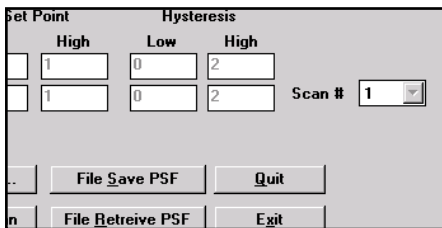

Figure 5-20. Scan # (PSF Configuration screen)
**Scan #** Provides a way to smooth output response and avoid unstable analog output conditions. The menu allows selection of from 1 to 9 scans (see Figure 5-20). For analog models, if scan # is set at more than 1, the scan analysis value is averaged for all of the selected number of consecutive scans, preventing dips and spikes in the outputs.